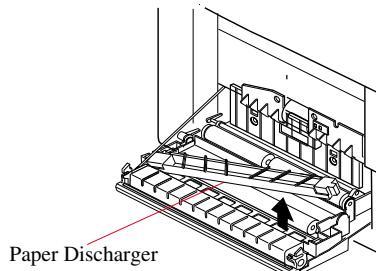

Fig. 5-23
### 5.3.5 Replacement of the Paper Discharger (see Fig. 5-23)
3. Install new paper discharger in the transfer unit (see Fig. 5-23).